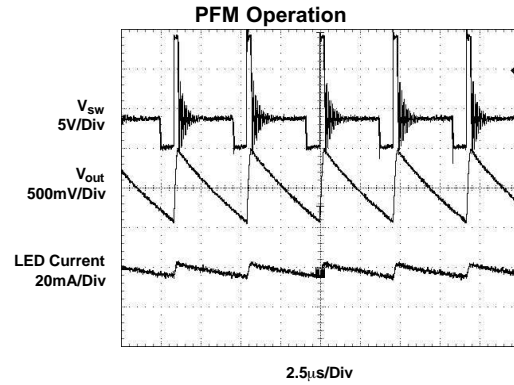
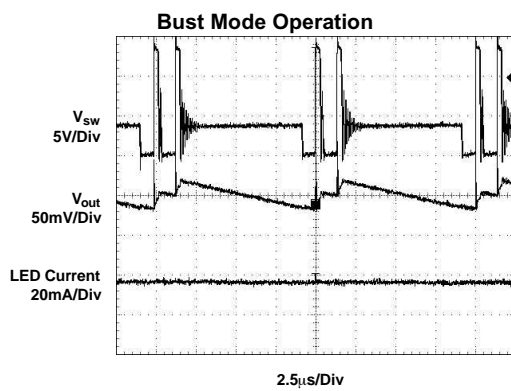

Figure 13
Figure 14
If the converter can support the desired LED current, the next step is to calculate the converter switching frequency at the operation point, which must be ≤ 1 MHz. Also the converter switching frequency should be much higher than the applied PWM frequency at the CTRL pin to avoid non-linear brightness control. Assuming the converter shows no double pulses or pulse bursts (Figure 13, Figure 14) on the switch node (SW) the switching frequency at the operation point can be calculated as:
Assuming the converter does not show double pulses or pulse bursts on the switch node (SW), the output voltage ripple is calculated as (see Figure 13, Figure 14):